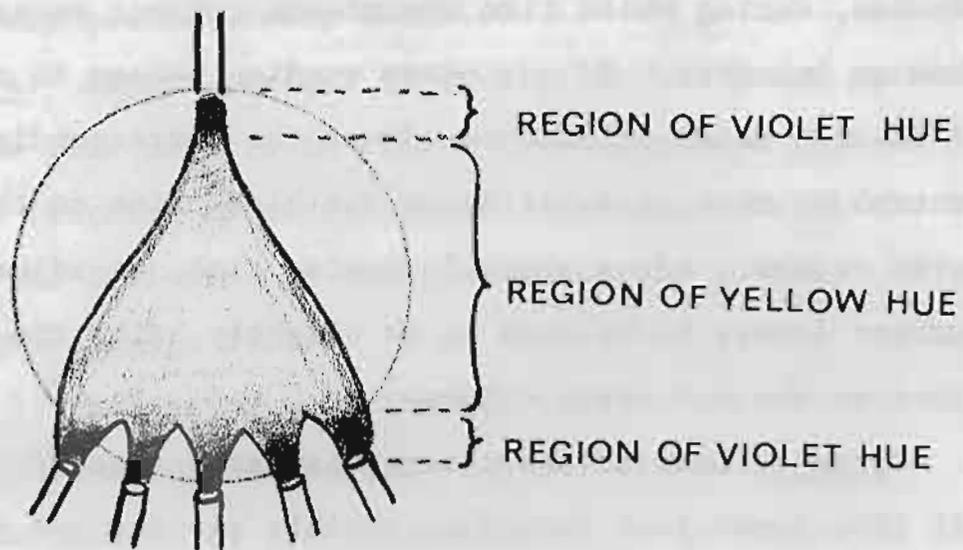

Figure 6
Step 7: Look at the plasma discharge (see Figure 6). All five lower jets should be visibly glowing and the red "PURGE" button should not be lit, indicating that the helium flow has been reduced to its normal operating level. If not all of the five jets are glowing, push the red "PURGE" button to inject additional helium to strike the discharge. The plasma color should be violet at the top and bottom electrodes, fading into a whitish-yellow hue throughout its interior volume. If the violet color extends throughout the discharge volume, then the helium flow can be reduced\*.